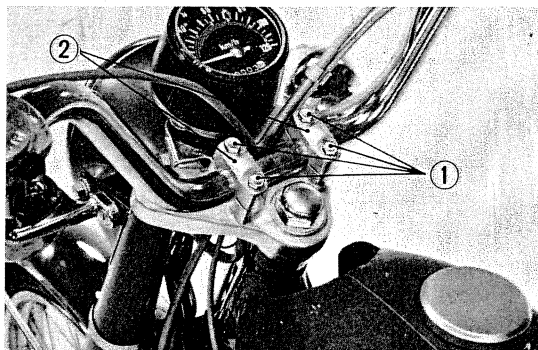

Fig. 122 Handle bar removal
- 6) Loosen four 6mm bolts and remove the handle bar upper holder and handle bar. (Fig. 122)